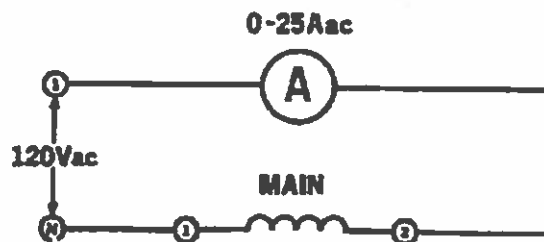

Figure 34-1.
1. Using your Capacitor-Start Motor, Power Supply, and AC Ammeter, connect the circuit shown in Figure 34-1. Note that the fixed 120 V ac output of the power supply, terminals 1 and N are being used.